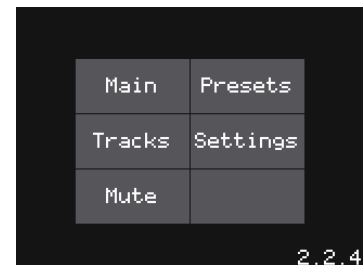

Figure 1: Menu Screen
To access these settings, press the **HOME** button until you see the Menu screen shown in Figure 1 on page 5. Touch **Settings** to display the Settings screen. Use the Control Knob closest to the parameter to adjust its value.
1. Press the **HOME** button until you see the Menu screen shown in Figure 1 on page 5. Touch the **Presets** option to display the Preset Management screen. The Preset Management screen shows a list of the presets stored on the microSD card with a menu across the top. The currently selected preset is highlighted in blue.